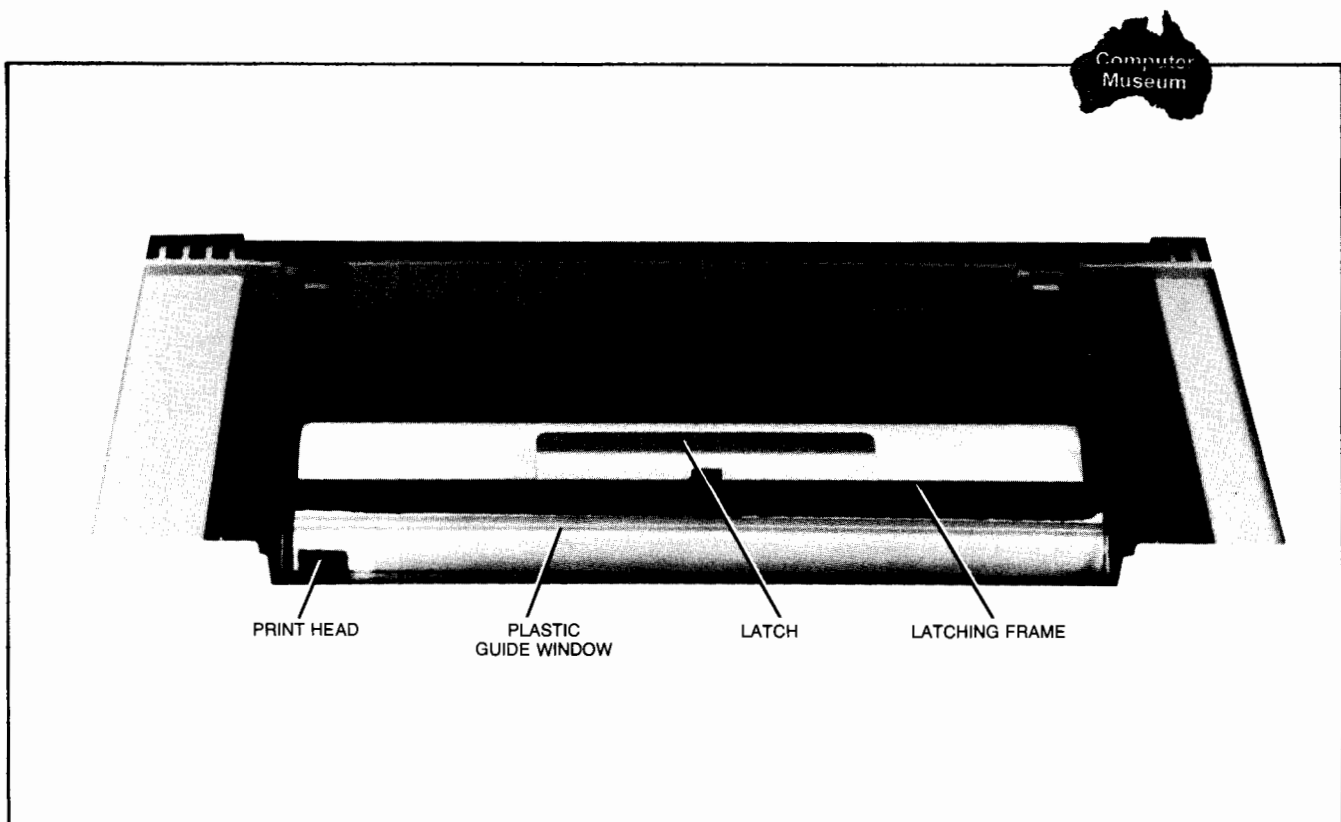

Figure 9-3. Printer Mechanism
The printer mechanism is shown in figure 9-3.
2. Press the latch (figure 9-3) toward the front of the terminal to release the latching frame. Lift the hinged latching frame to its forward position.